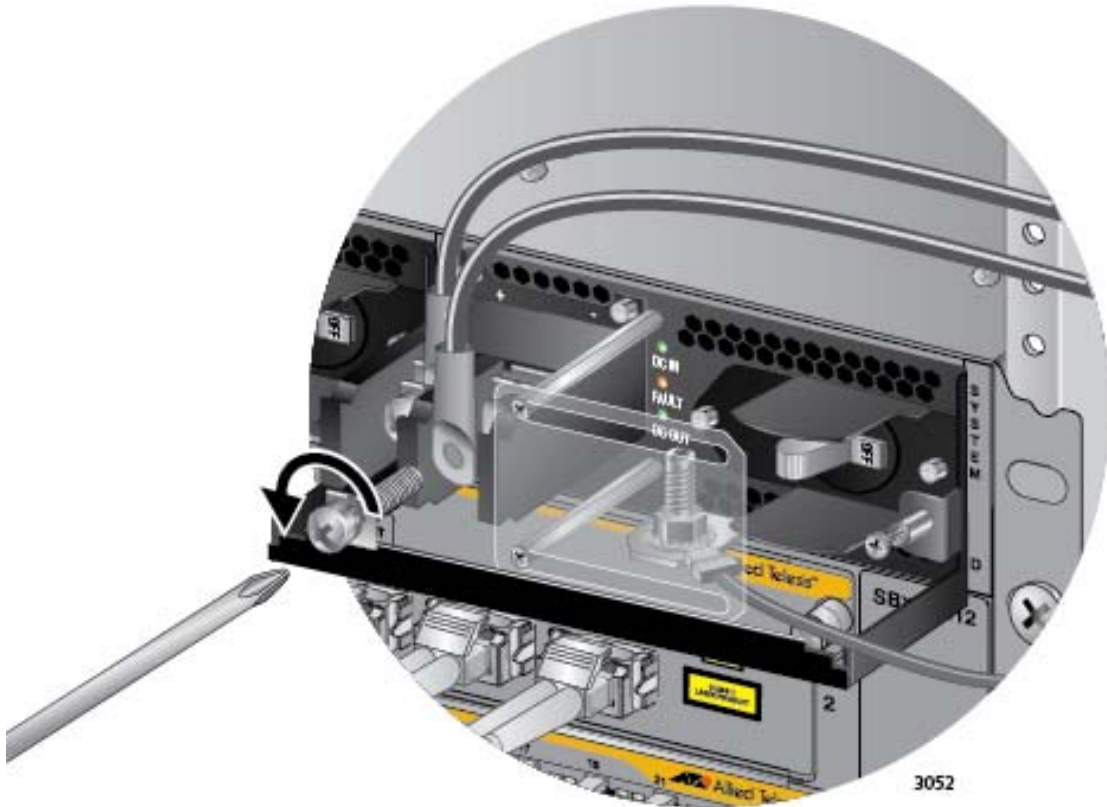

Figure 151. Removing the Negative Lead Wire
5. Use a #3 screwdriver to remove the negative (-) lead wire from the terminal block. The negative lead wire is on the right. Refer to Figure 151 on page 242.